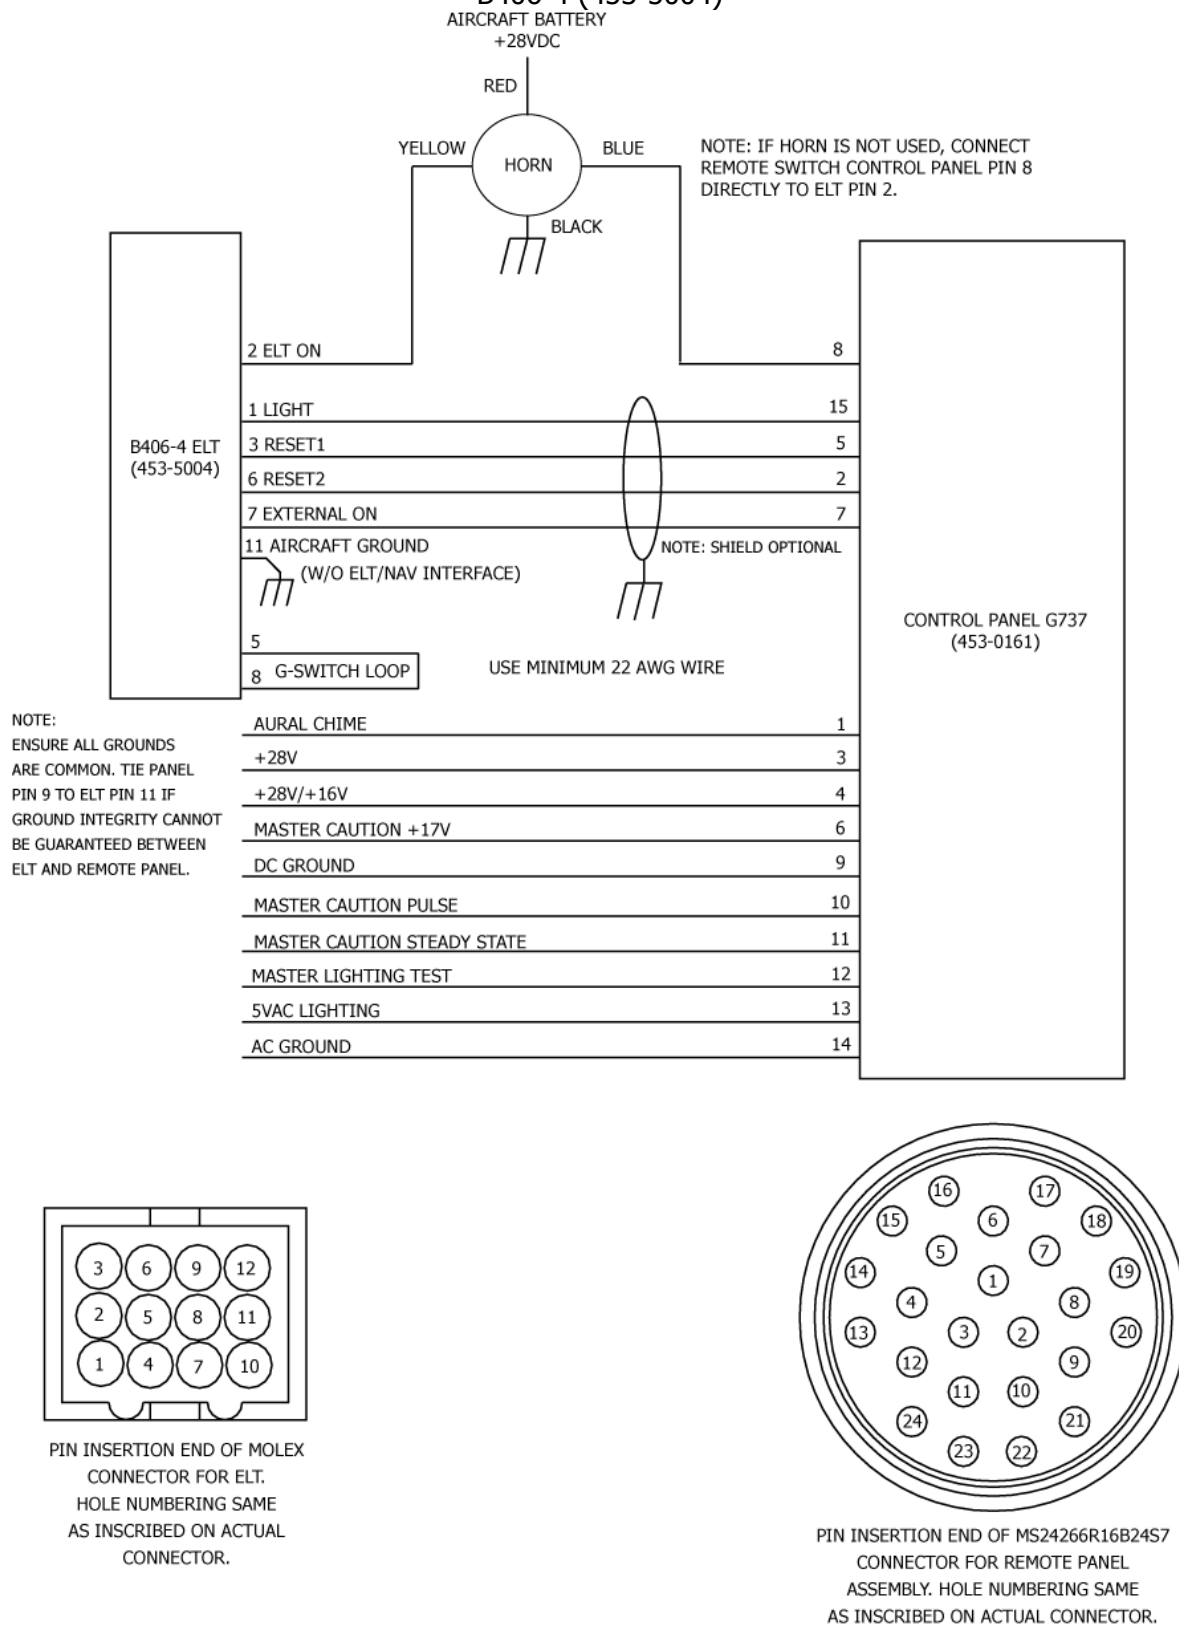

Figure 19 Remote Switch Panel Harness Wiring Diagram
NOTE: If spare wires are used, terminate the wires in accordance with Figure 19 Remote Switch Panel Harness Wiring Diagram on page 52, and the procedures herein.
NOTE: A 5 or 6-wire harness may be necessary if a ground wire is connected between ELT Pin 11 and remote switch panel Pin 9; and/or ELT Pin 2 must be connected to remote switch panel Pin 8 if a horn is not installed. See Figure 19 Remote Switch Panel Harness Wiring Diagram on page 52.
- 3) Fabricate the additional wires needed to connect the remote switch panel; referring to Figure 19 Remote Switch Panel Harness Wiring Diagram on page 52, and the aircraft wiring diagrams to determine appropriate connection points.
- k) Prepare the wires as described in Steps (2)(a) and (2)(b).
- 4) Terminate the remote switch panel end of all wires in an MS24266R16B24S7 connector in accordance with the aircraft manufacturer's written instructions or AC43.13-1, as applicable. See Figure 19 Remote Switch Panel Harness Wiring Diagram on page 52.
- 6) Terminate the aircraft side of the wires fabricated in Step (3) at the appropriate connection points in accordance with the aircraft manufacturer's written instructions or AC 43.13-1, as applicable. See Figure 19 Remote Switch Panel Harness Wiring Diagram on page 52 and aircraft wiring diagrams.
- 6) Insert the terminal pins in the harness ELT Molex 12-pin receptacle (151-5012), as follows. See Figure 19 Remote Switch Panel Harness Wiring Diagram on page 52.
- b) Insert the harness ELT wire ends into the receptacle. See Figure 19 Remote Switch Panel Harness Wiring Diagram on page 52.
- 1) Connect the ground wires to the airframe in accordance with the aircraft manufacturer's written instructions or as described in AC 43.13-1, Chapter 11, § 15, as applicable. See Figure 19 Remote Switch Panel Harness Wiring Diagram on page 52.